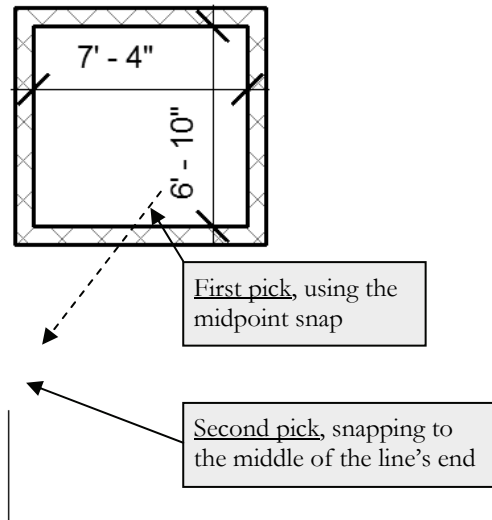

FIGURE 3-3.4 Move elevator shaft into place
15. Snap to the *Midpoint* of the shaft as your first point, and then snap to the *Middle Endpoint* of your temporary detail line (Figure 3-3.4). You should zoom in to verify your snaps. Do not draw the dimensions, they are for reference only.